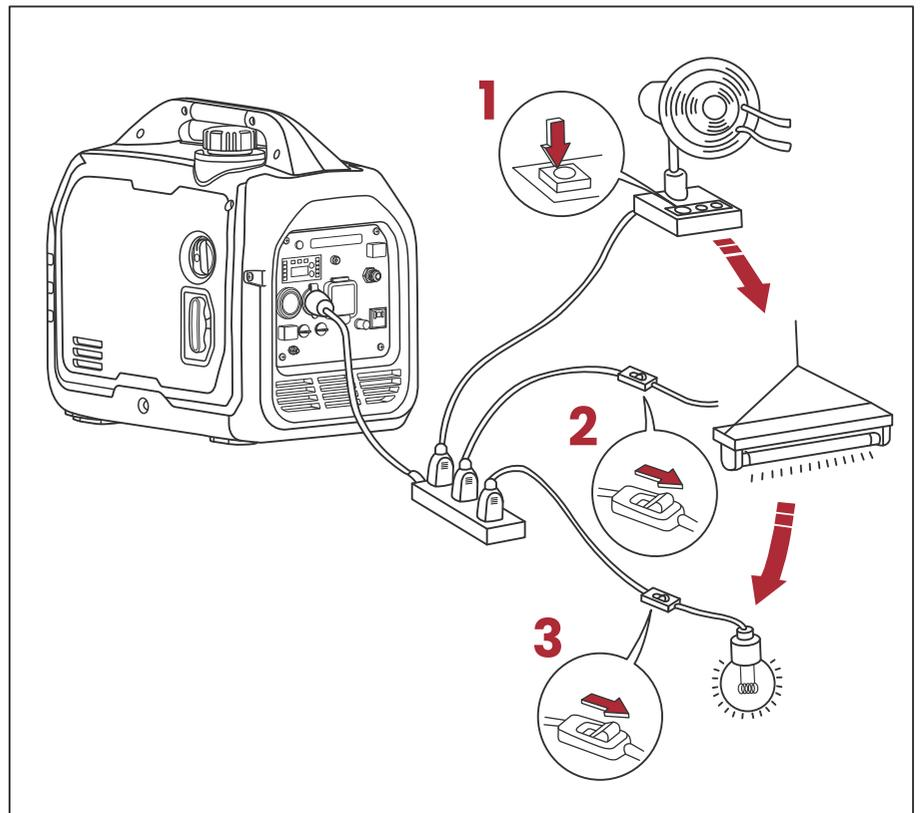

Fig.25
4. Before increasing engine speed, energy-saving switch must be switched to "OFF" . If more than one load or electrical equipment is connected to the generator set, remember that the one with the highest starting load is connected first, and the one with the lowest starting current is connected last (see **Fig.25**).